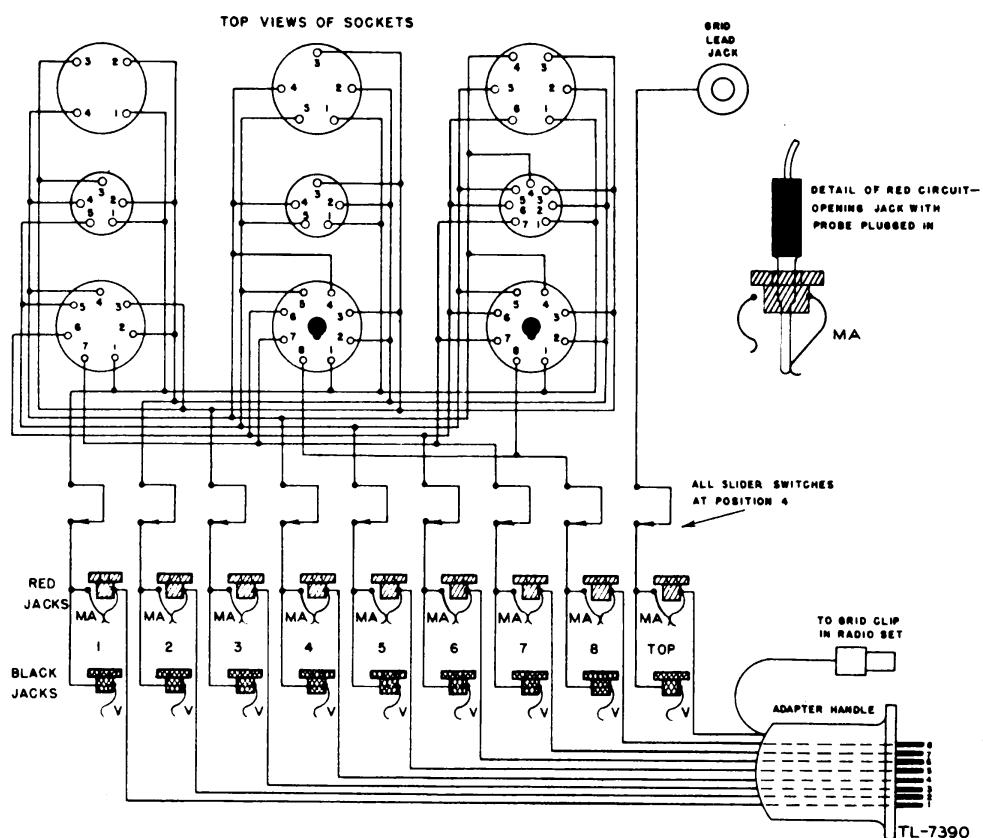

FIG. 20. MODEL 104 COMBINATION TESTER, SIMPLIFIED FREE-POINT TESTING CIRCUIT
h. *Combination Tester as Free-Point Tester* (fig. 20). When all the slide switches (S-3) are in position 4, the tube socket terminals are connected to the red (MA) and black (V) jacks (J-5, J-6). The free-point cable (CAB-1) is connected to the red (MA) jacks (J-5). The number on the jacks and adapter plugs correspond to the tube socket numbers, so that terminal 1 on the tube socket terminal is connected to jack 1 and adapter plug prong 1. Measurements can be made between the various jacks in the same manner as for external circuits.